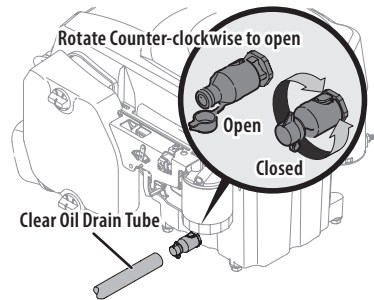

Figure 27
4. Open the protective cap on the end of the oil drain valve to expose the drain port (Figure 27).